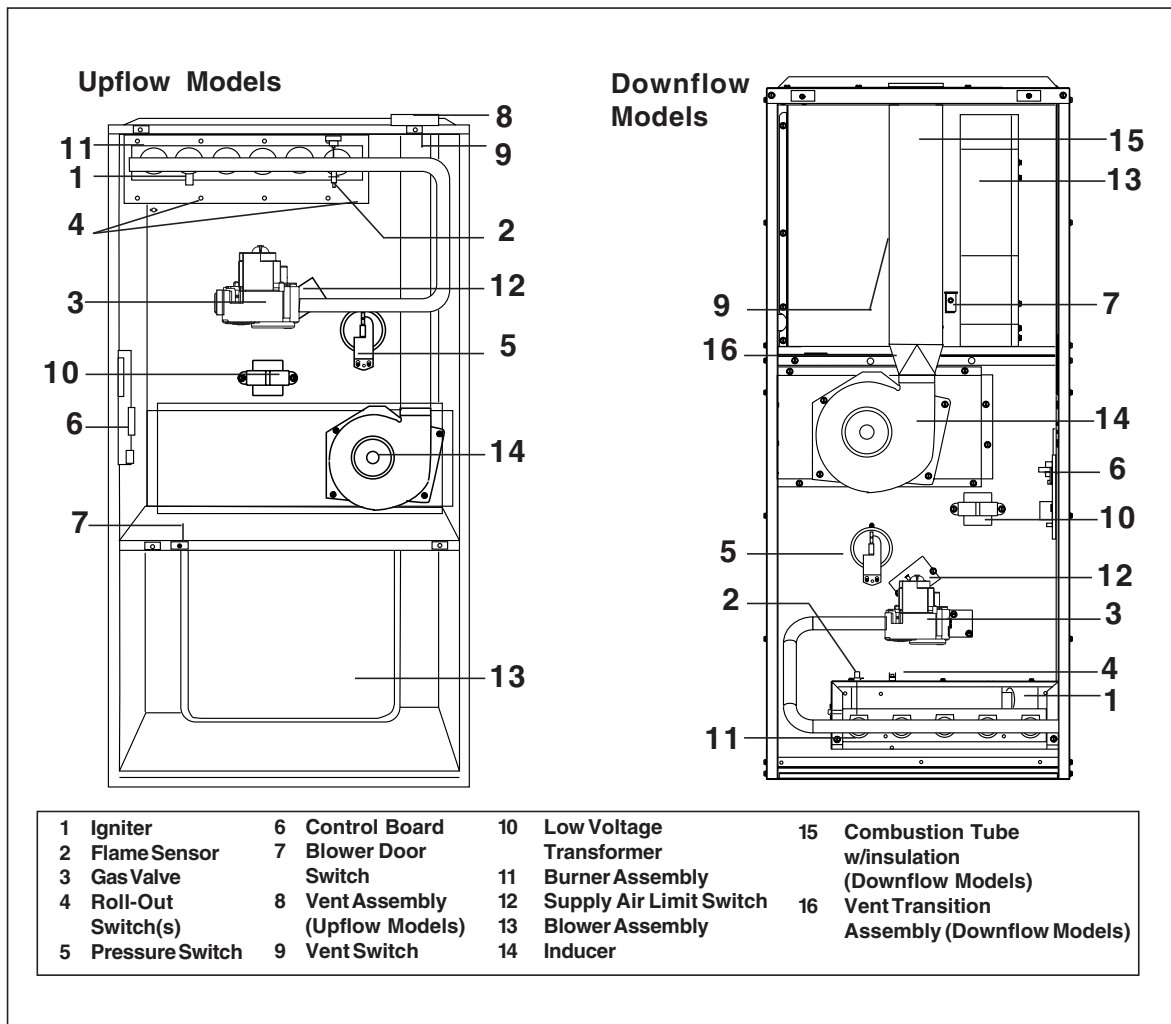

Figure 36. Location of Major Components
Figure 36 shows the location of each of the functional components described below. Also, refer to the Sequence of Operation Section of this manual. If any component of the furnace
If the flue passages must be cleaned, follow the steps below. See Figure 36 for component location and identification.
If the burners must be cleaned, follow the steps below. See Figure 36 for component location and identification.
If the furnace locks out after 5 attempts for ignition, it will try again every hour if a call for heat remains. If the inducer and circulating air blowers are operating, and items 1 through 8 have been checked, press the red reset button on the vent safety switch (See Figure 36). If the furnace operates after depressing the reset button, contact a qualified serviceman to identify and repair the problem.
If the furnace continues to not operate, depress the red reset buttons on the flame roll-out switches. (See Figure 36.) If the furnace operates after depressing the reset buttons, contact a qualified servicemen to identify and repair the problem.